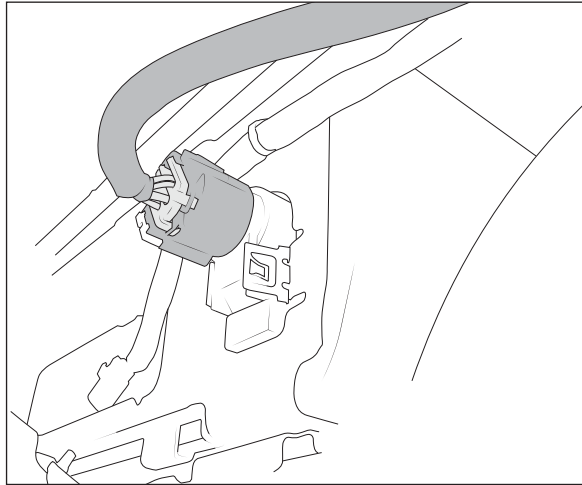

Figure 1
1. Remove Factory Trailer plug (fig. 1).
- A. Plug wiring to tailgate for backup camera (fig. 1).